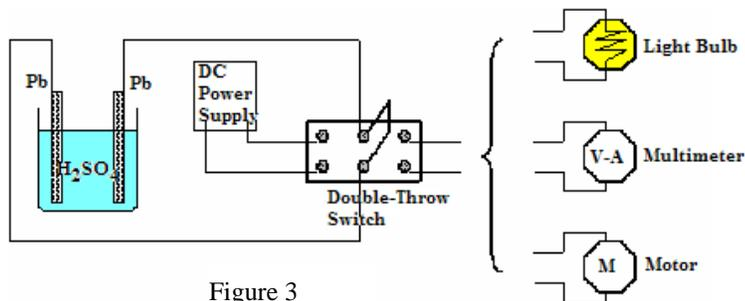

Figure 3
2. Using the double-throw switch, connect the power supply, the lead strips, and the digital multimeter in such a way that the switch can be set to either include or exclude the external power supply at any given time. Remember, it will be needed during the initial charging and recharging phases of operation, but not during the discharging phase. See Figure 3 for a simple illustration of this type of circuit; compare with the circuits in the Discussion section. (The light bulb and motor will be used at a later time; do not connect them yet.) Verify with your instructor that your setup is correct.